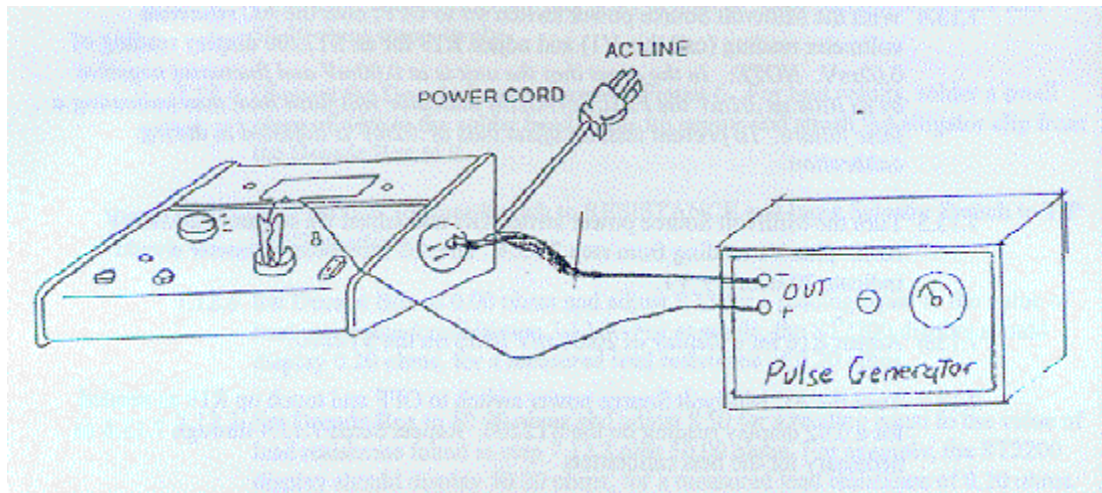

Figure 8. Spike Test
**7.15.2** Connect the Pulse Generator to the ST2200 sensor as shown in Figure 8.